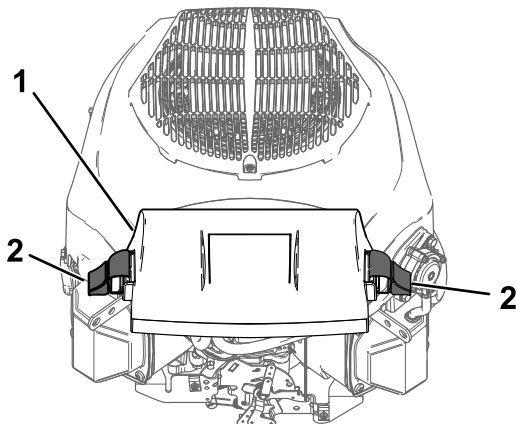

Figure 33
3. Install the cover and secure it with the retaining clamps (Figure 33).